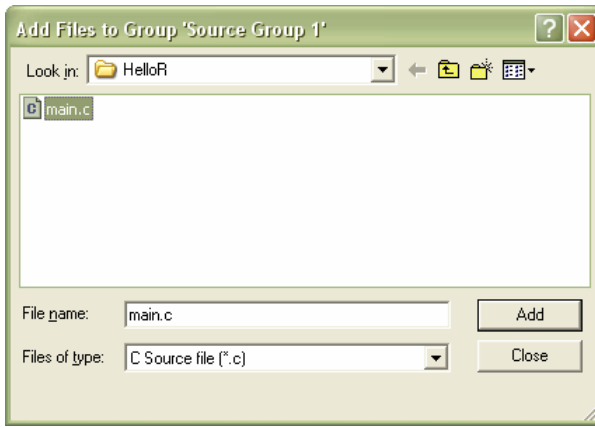

FIGURE 13 Adding the newly created main.c file to the project.
- Select “main.c” and click **Add** (Figure 13).